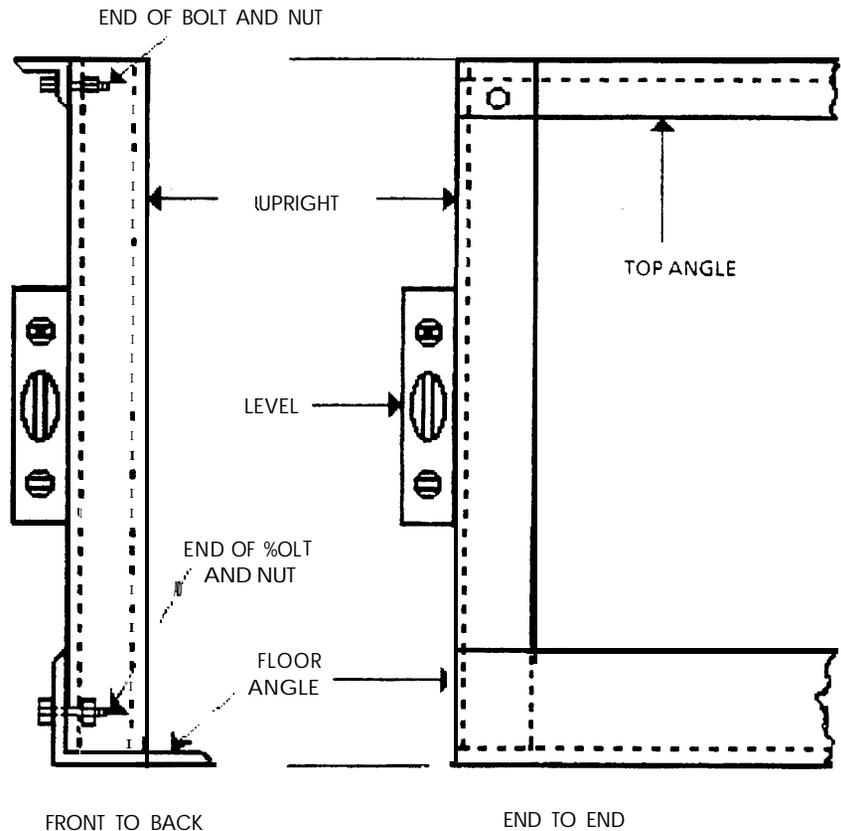

Figure 20. Location of Nuts and Bolts and Level Placements.
- (e) Plumb all trunk board uprights using an accurate level. Place the level vertically in the center of the first upright and plumb the upright front to back and end to end (Figure 20). Tighten the channel braces to the top angle. After all trunk board uprights are plumbed, braced, and completely assembled, make sure all bolts are tight.